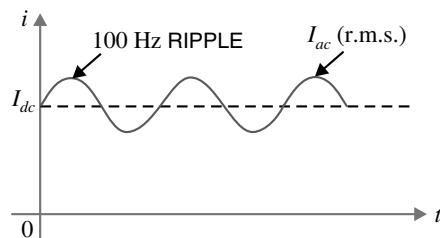

Fig. 4.48
**Mathematical analysis.** The output current of a rectifier contains d.c. as well as a.c. component. The undesired a.c. component has a frequency of 100 Hz (*i.e.* double the supply frequency 50 Hz) and is called the *ripple* (See Fig. 4.48). It is a fluctuation superimposed on the d.c. component.